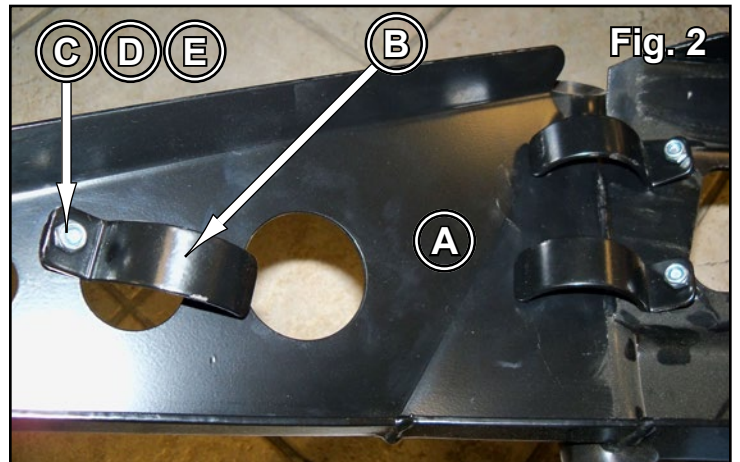

Fig. 2
2. Install (6) Clamps (B) to Bumper Cover (A) using (6) each M6-1.0 x 25mm Lg. HHCS (C), M6 Flat Washers (E), and M6-1.0 Nylock Nuts (D). See Fig. 2.